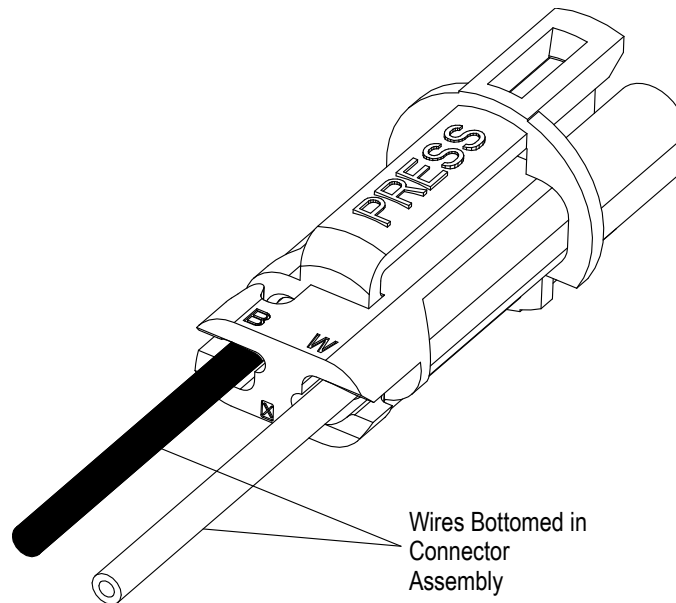

Figure 3
3. Insert each stripped wire into an insertion hole in the back of the plug or receptacle until bottomed. For field wiring, black and white wires must be inserted into corresponding holes marked “B” or “W”. The “B” (Black) wire insertion hole is also indicated by a black mark on the side of the housing. See Figure 3.